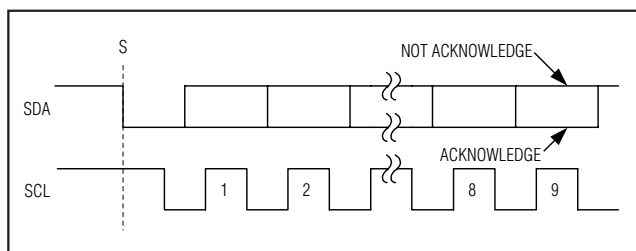

Figure 6. Acknowledge Bits
Data transfers are acknowledged with an acknowledge bit (A) or a not-acknowledge bit (A). Both the master and the MAX1136-MAX1139 (slave) generate acknowledge bits. To generate an acknowledge, the receiving device must pull SDA low before the rising edge of the acknowledge-related clock pulse (ninth pulse) and keep it low during the high period of the clock pulse (Figure 6). To generate a not-acknowledge, the receiver allows SDA to be pulled high before the rising edge of the acknowledge-related clock pulse and leaves SDA high during the high period of the clock pulse. Monitoring the acknowledge bits allows for detection of unsuccessful data transfers. An unsuccessful data transfer happens if a receiving device is busy or if a system fault has occurred. In the event of an unsuccessful data transfer the bus master should reattempt communication at a later time.